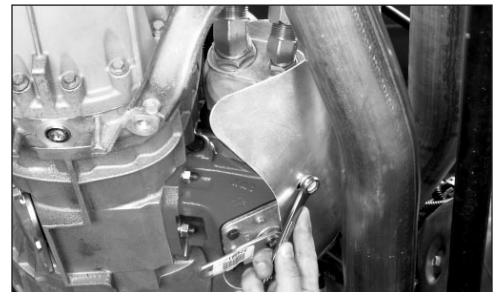

Fig. 23
25. Install P.T.O. Heat Shield (379847) to the P.T.O. (Fig. 23). The heat shield is attached to the closed bearing cap by re-installing capscrew (378430-10) to the bearing cap and hex capscrew (378430-8) to the heat shield support bracket. Torque 378430-10 to 16-20 Lbs. ft. [22-27 N.m.].